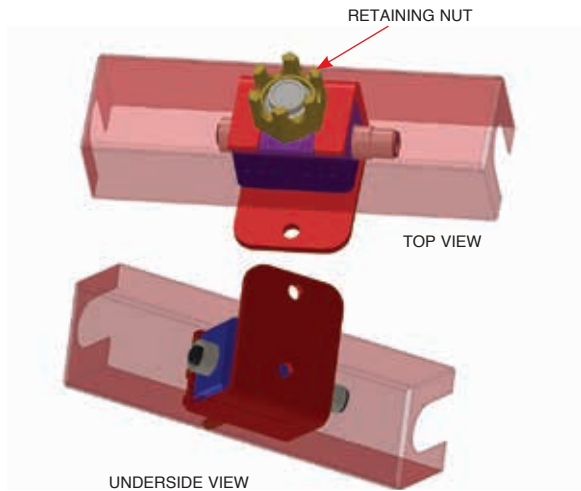

FIGURE 5-19
- Place Heat Shield over detector head and loosely install retaining nut. See Figure 5-19. **Note:** Remove Heat Shield to connect Detection Circuit Cables.